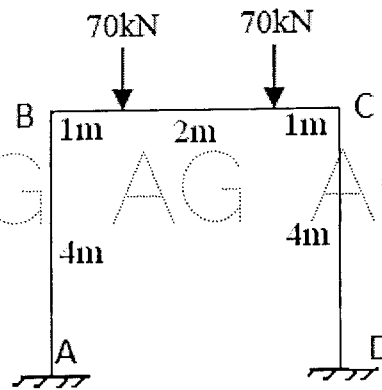

Figure 7
9. Analyse the frame shown in figure 7 by matrix stiffness method. Flexural rigidity is EI . [10]